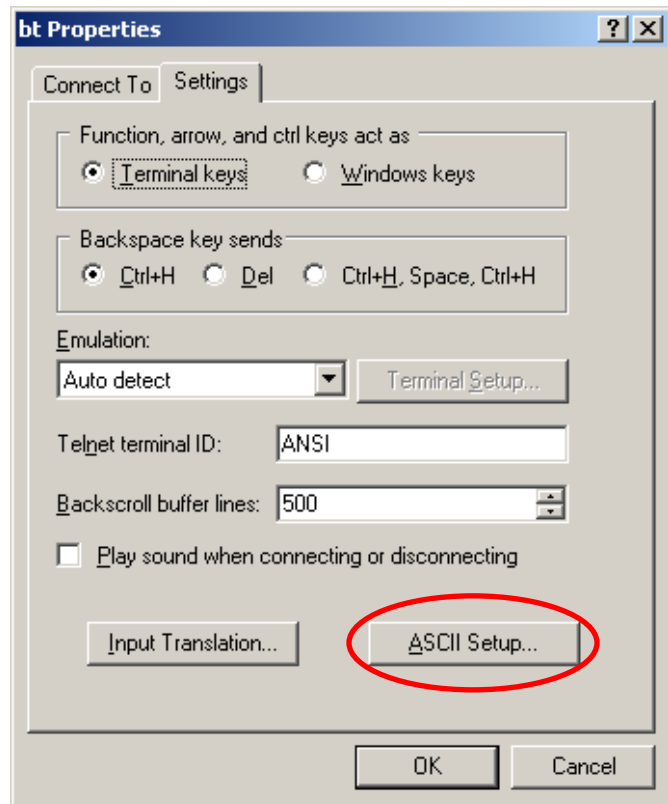

Figure 4. Selecting ASCII Setup.
6. Select the **File** menu and the **Properties** item. Then select the **Settings** tab and the **ASCII Setup** button as shown in Figure 4.